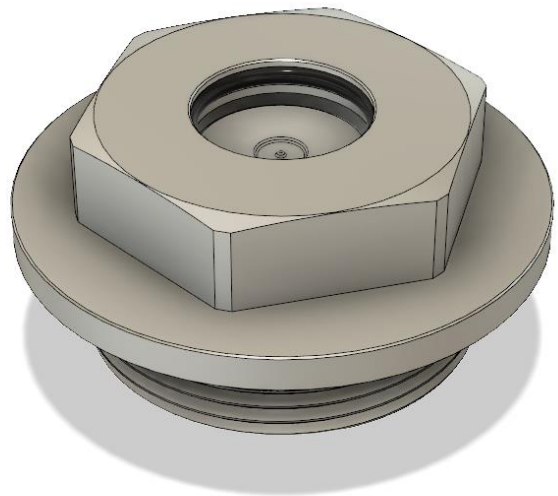

Figure 3
3. Visually inspect the valve body on the steering rack housing, if equipped (Figure 3).